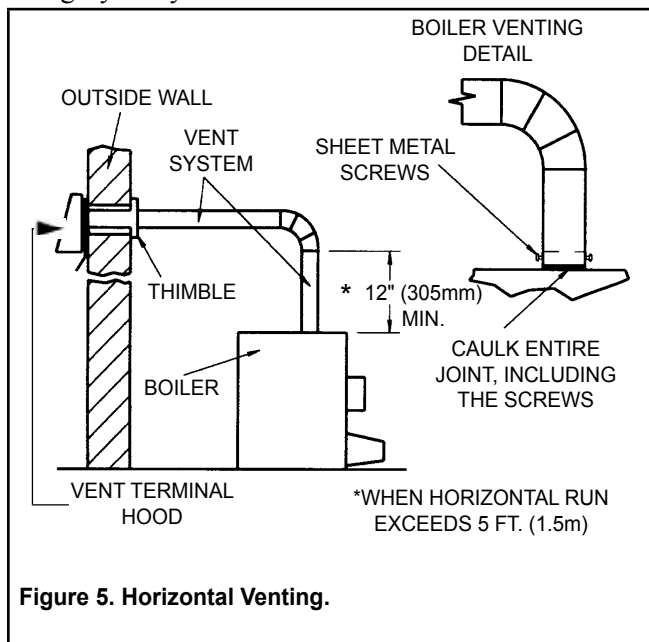

Figure 5. Horizontal Venting.
The boiler vent collar must be fastened to the vent pipe with rustproof metal screws no longer than 1/2" (13mm) and sealed with high temperature (500°F / 260°C) silicone sealant. For larger diameter vent pipes, use a sealed reducer fastened directly to the boiler collar and seal all joints as indicated in **Figure 5**. Allow the sealant to cure for 24 hours before operating the boiler.
1. Attach a vertical pipe at least 12" (305mm) high to the boiler outlet before the horizontal run if run exceeds 5 feet (see **Figure 5**).